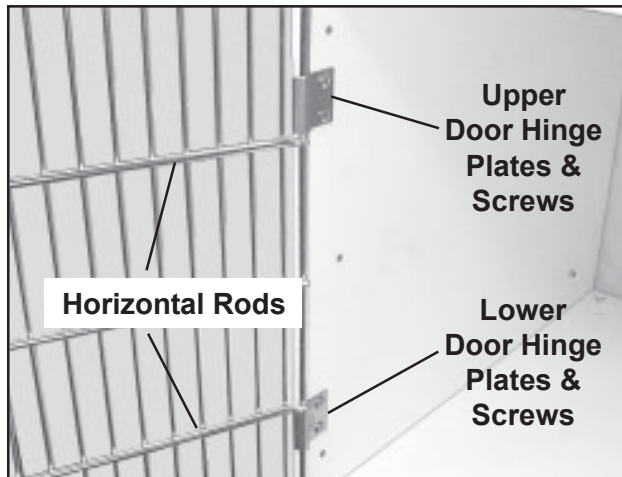
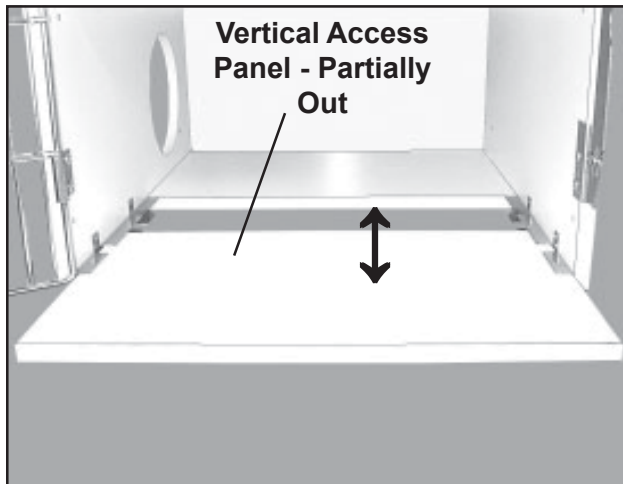

Figure 45. Upper & Lower Door Hinges
Figure 50. Horizontal Access Panel Being Removed or Installed
2. With a Phillips screwdriver, unscrew the two screws on the door hinge, and remove either or both the curved and/or flat hinge plates, as required (Figures 45 and 46).
2. Slide the access panel out of the cage floor (Figure 50). **Note:** Sliding the access panel out and in can be a tight fit. If necessary, loosen the four hinge plate screws (Figure 45), and gently move the door slightly upward.
2. Slide the access panel out of the cage floor (Figure 50).
Note: Sliding the access panel out and in can be a tight fit. If necessary, loosen the four hinge plate screws (Figure 45) and gently move the door slightly upward.